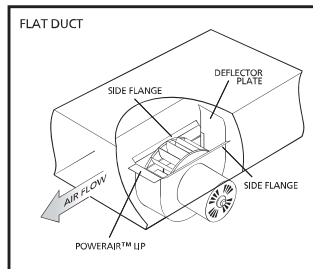

Figure 1
3. After the duct work has been properly cut, insert the PowerAir™ Fan lip **INSIDE** the duct opening, (See Figure 1 & 2) pushing the PowerAir™ Fan housing forward and upward at the same time so that the PowerAir™ Fan housing fits snugly into the opening. The side flanges should be on the **OUTSIDE** of the duct. (See Figure 1 & 2) NOTE : Be certain that the PowerAir™ Fan 'Deflector Plate' (See Figure 1 & 2) , which curves above the blower wheel , is pointing in the direction of airflow.
Fasten PowerAir™ Fan to air duct with 4 sheet metal screws, pulling the PowerAir™ Fan up snugly against duct. If necessary, bend the side flanges (See Figures 1 & 2) to conform to your particular duct size and shape.